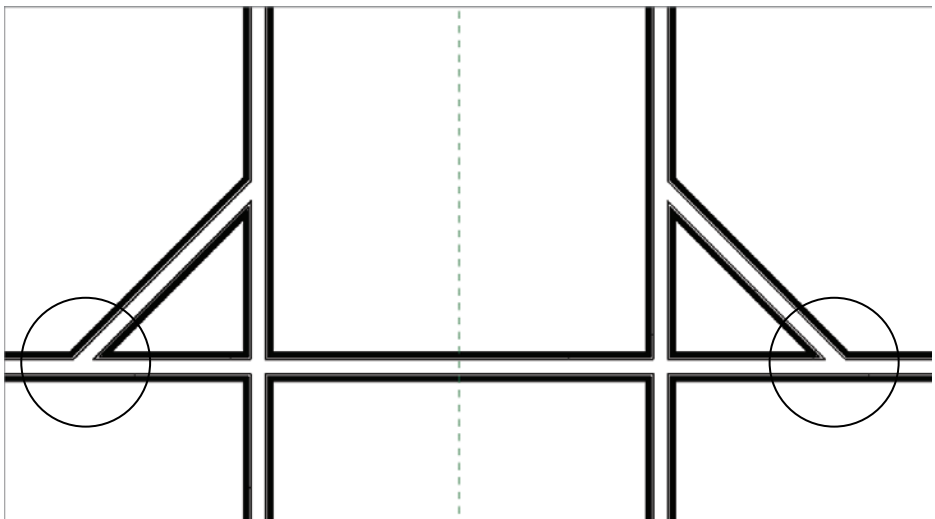

FIGURE 2.46 Split the wall at two points. If you've selected Delete Inner Segment, the result is to eliminate the wall between the two points.
4. Pick the second point along the same wall, only on the opposite side (see Figure 2.46).